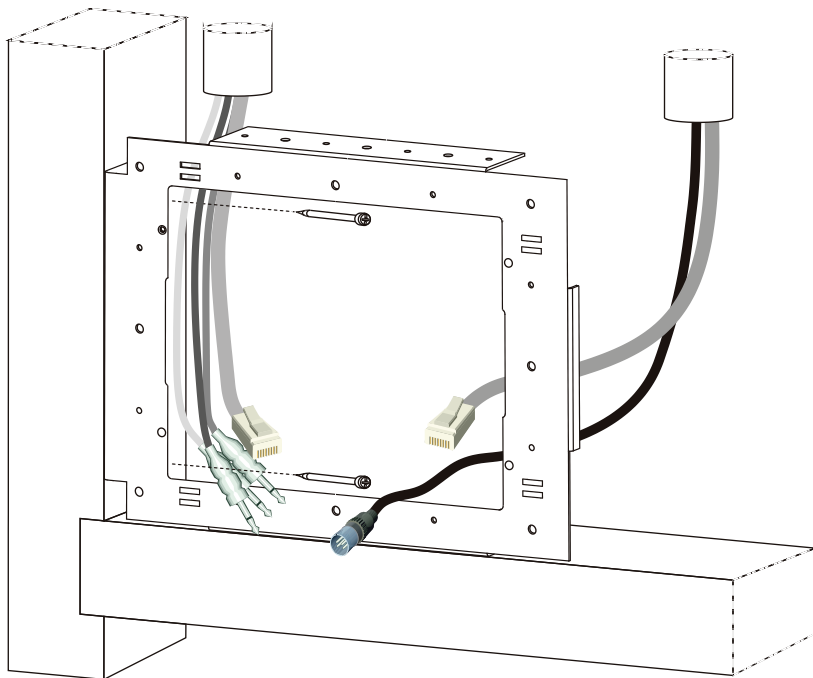

Figure 7. Installing the C-Touch Colour Nail Bracket
- 3) Feed the cables through to the nail bracket. The use of conduit is recommended. Refer to Figure 7. The number and positioning of cables will vary depending on the particular installation. Possible cables are listed in Table 1.